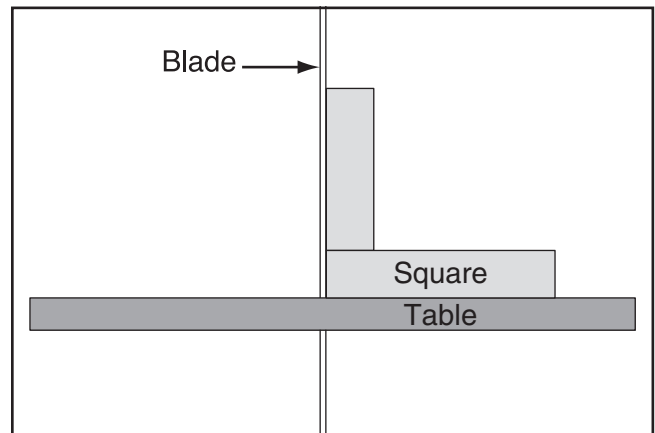

Figure 12. Using a square to adjust table perpendicular to the side of blade.
5. Use adjustment knob to tilt table until square is flat against side of blade, as illustrated in **Figure 12**.